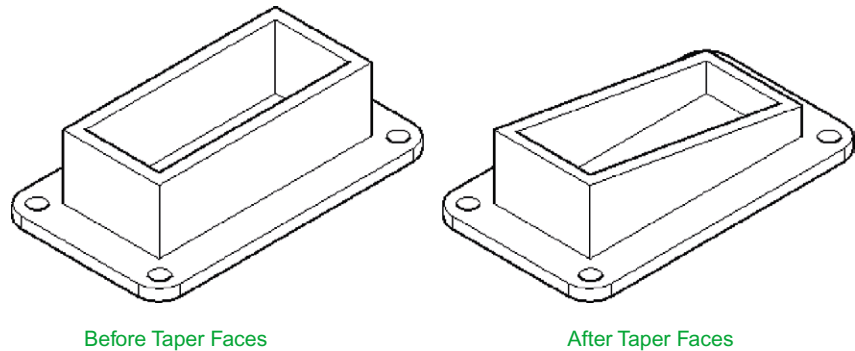

Fig. 18.8 Fifth example – Taper faces tool
Fifth example – Taper faces tool (Fig. 18.8)
1. Construct the 3D model as in the left-hand drawing of Fig. 18.8. Place in **ViewCube/Isometric** view.
And the selected face tapers as indicated in the right-hand drawing of Fig. 18.8.